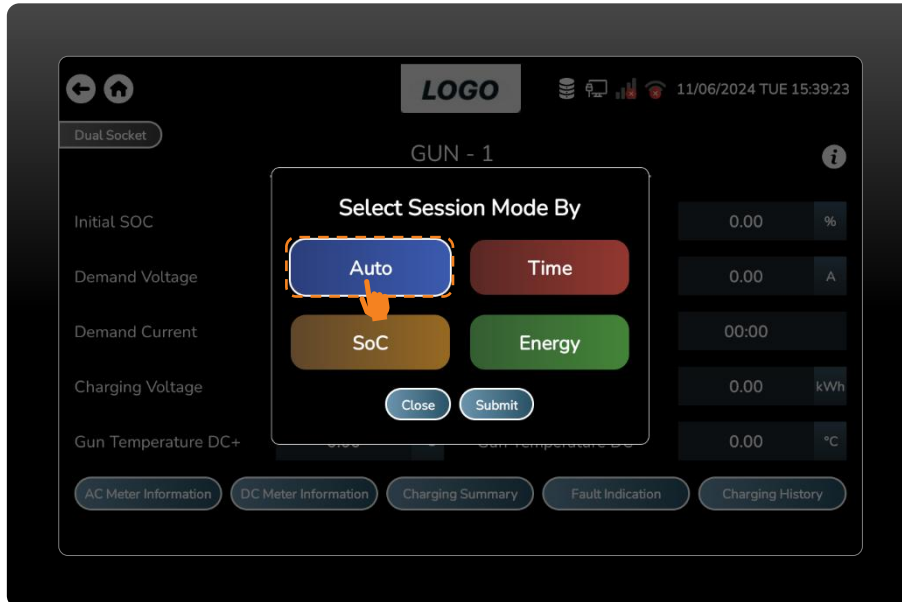

Figure 57 Auto Mode Select Mode.
- This auto mode is set by default in session mode, where it uses an ideal parameter for charging the vehicle. (Figure 57)